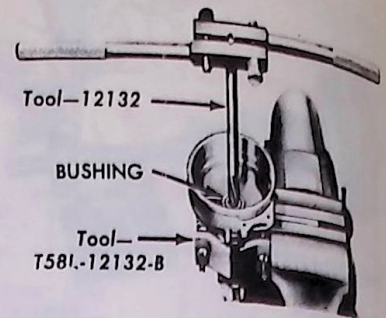

FIG. 22 Burnishing Bushing
2. Burnish the bushing to the proper size (Fig. 22).